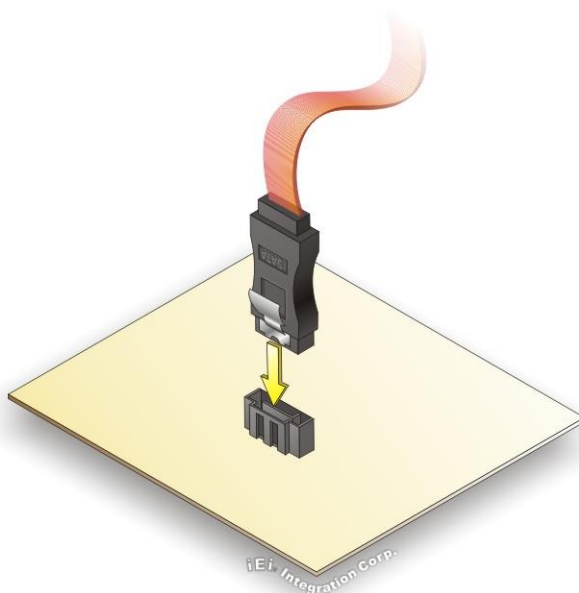

Figure 4-7: SATA Drive Cable Connection
Step 2: Insert the cable connector. Insert the cable connector into the on-board SATA drive connector until it clips into place. See **Figure 4-7**.